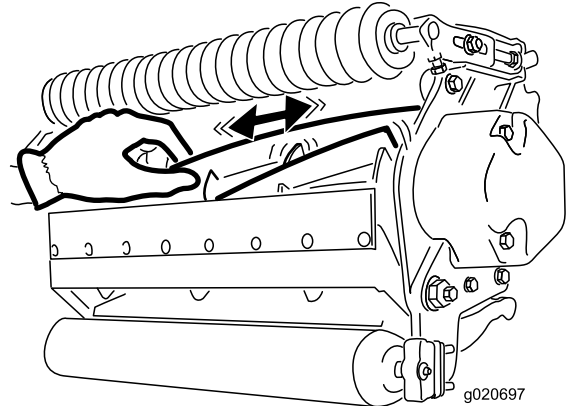

Figure 25
2. Using a rag or thickly padded glove, hold on to the reel blade and try to move the reel assembly side to side (Figure 25).